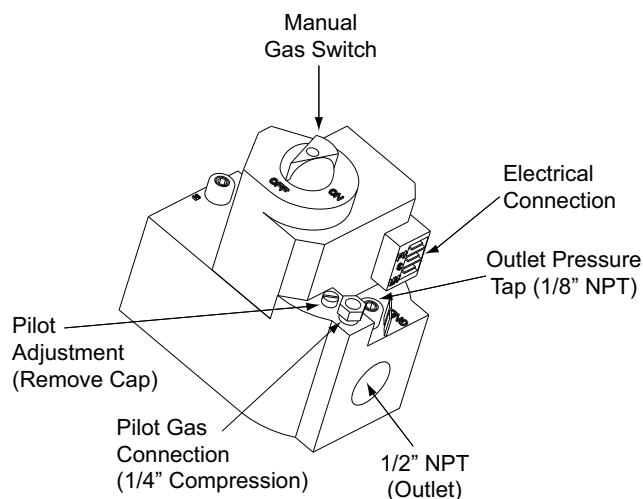

Figure 15: Single Stage Gas Valve Front
Small adjustments to the gas flow may be made by turning the pressure regulator adjusting screw on the automatic gas valve. Refer to Figures 15 and 16.
1. Remove the cap from the valve body. See Figures 15 and 16 for location.